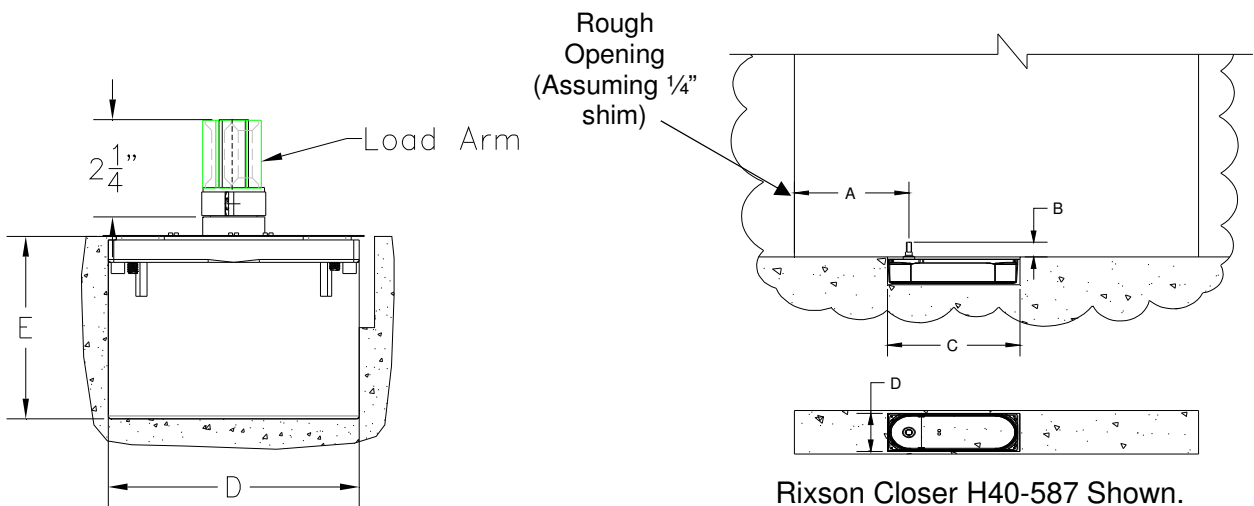

Figure 10:
2. Measure dimension of "A" as specified from opening to the spindle center (Figure 10 & Table 2).